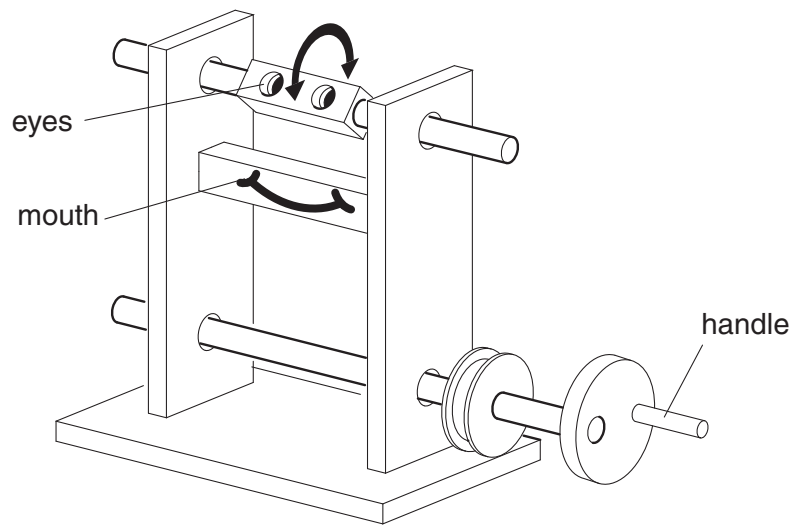

Fig. 9
Fig. 9 shows incomplete details of a moving face toy. The mouth is fixed but the eyes rotate.
- (c) Draw on Fig. 9 a method of rotating the eyes by using the handle.